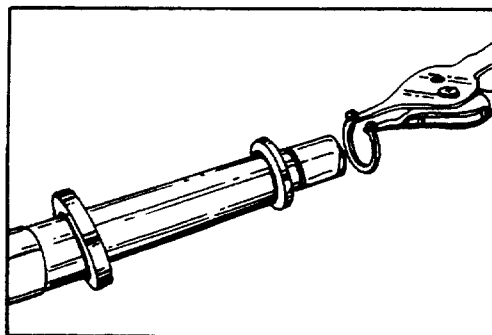

FIGURE 37.
- remove retaining ring** 46. Using appropriate external retaining ring pliers, remove the retaining ring (34) from the input shaft/wheel tube (33). See figure 37. Discard, if deformed or broken.